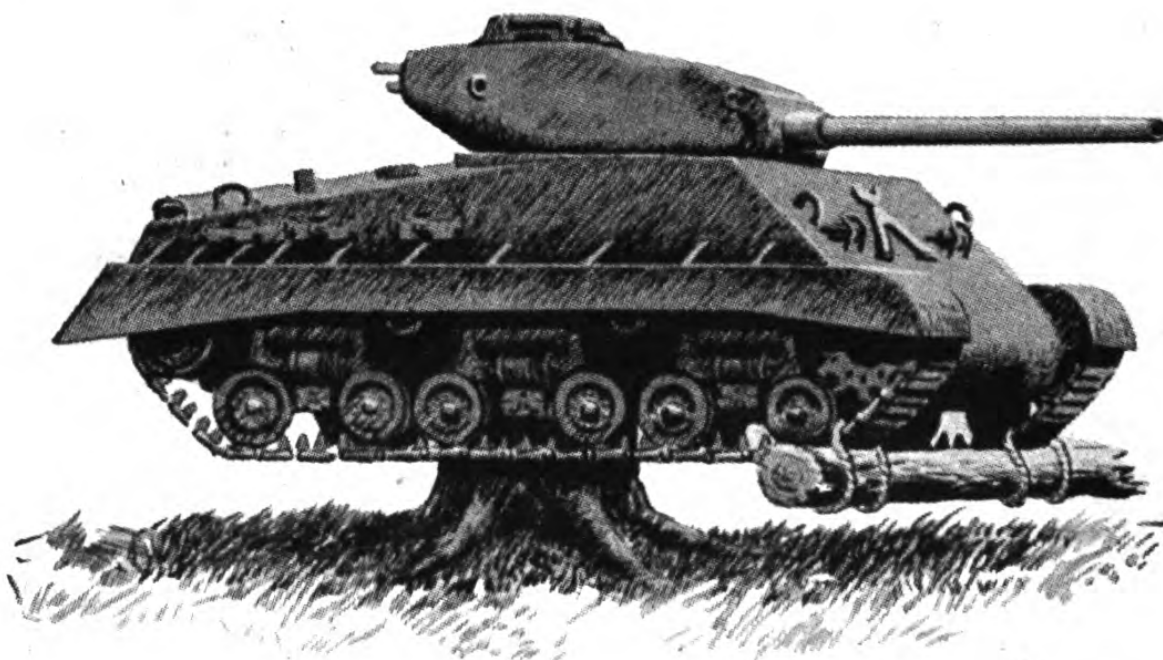

Figure 39. A vehicle bellied on a stump can be moved by chaining a log between the tracks.
37. BELLIED VEHICLE. To remove a vehicle bellied on a stump or in mud, chain a log to the tracks. (See fig. 39.)